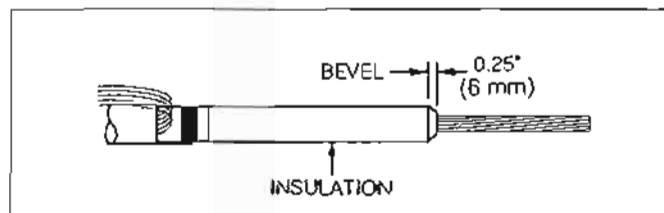

Figure 6.
- Remove sharp edge of insulation by beveling at a 45° angle for approximately 0.25" (6 mm). (Refer to Figure 6.)